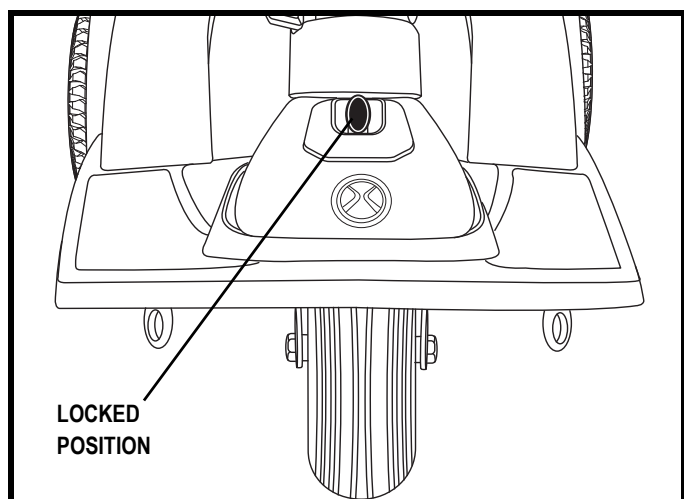

Figure 21. Tiller Lock knob (Locked)
2. Lock the tiller in the straight ahead position by pushing the tiller lock knob in and turning it clockwise 90°. See **figure 21**. The front wheel must face forward in order to lock the tiller.